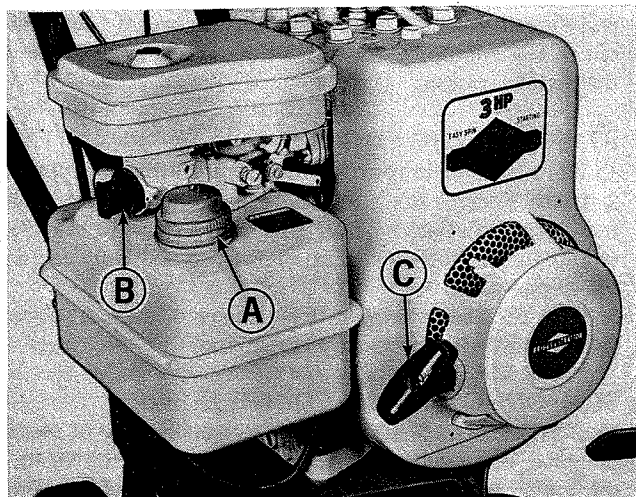

Figure 2. Roticul engine controls.
FUEL TANK FILLER CAP: (Figure 2, Item A) Turn the filler cap counter-clockwise to remove it. Fill the tank with clean, fresh, leaded or non-leaded regular automotive grade gasoline. **CAUTION: GASOLINE IS HIGHLY FLAMMABLE. AVOID OVER FILLING, WIPE UP ANY SPILLED FUEL. ALLOW NO OPEN FLAME, SMOKING OR MATCHES NEAR THE AREA WHEN REFUELING.** Replace the filler cap securely. Store gasoline only in small quantities. Prolonged storage produces gum, and harmful deposits. If it is necessary to store gasoline for a long period of time, add Sta-Bil brand gasoline stabilizer, available at your Simplicity dealer.
CHOKE CONTROL: (Figure 2, Item B) The choke may be pulled out to increase the amount of fuel entering the engine for starting and engine warm up. After the engine has started,
STARTING HANDLE: (Figure 2, Item C) Pulling on the starter handle rotates the engine for starting. When starting the engine grasp the recoil starter handle firmly in your right hand, and pull sharply straight out.
4. Grasp the recoil starter handle (Figure 2, Item C) in your right hand and pull sharply straight out to start the engine. After the engine starts slowly push the choke control to the off position. If the engine fails to start after four or five pulls, it may be flooded. Return the choke to the off position, and pull the recoil starter handle to clear the excess fuel. Always return the handle by hand. Do not release the handle with the rope extended.